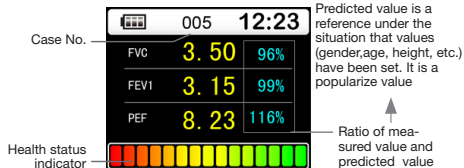

Figure 4 Main parameter interface
2. In (Testing) interface, breath in fully, seal the lips around the mouthpiece and blast all air out as forcefully as possible in a minimal amount of time, wait for a few seconds, the device will enter (Main parameter) interface as shown in Fig.4.
a. Main parameter interface: display the ratio of predicted value and measured value of three main parameters. Ratio reflects health status, correct settings of personal information is the key to obtain accuracy ratio. Besides, this interface can also display battery status, time, case number and health status indicator, as shown in Fig.4.